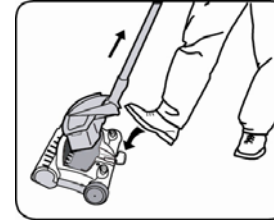

Fig. 12
1. Press the dust cup release lever with your foot. (Fig. 12)